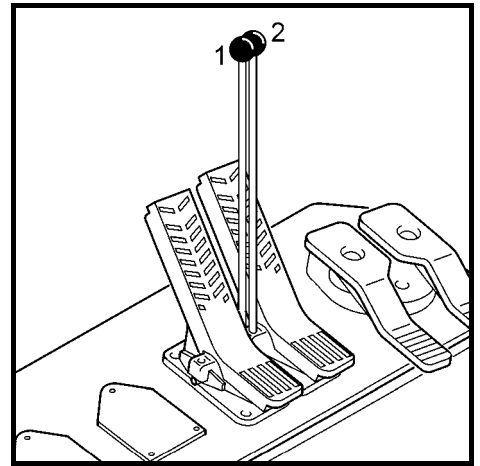

Fig. 22
A more sensitive travel control can be achieved by using the two hand levers included in the tool kit (Fig. 22, pos. 1 and 2).